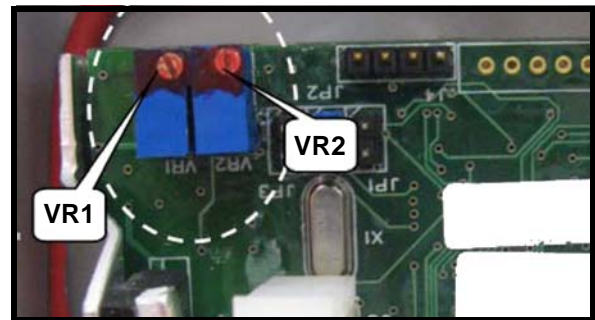

Fig. 27
- 2) **Safe working load:** By actuating the handset, make sure that the lift raises the safe working load on its entire stroke (175 kg / 385 lb). If not, adjust the current limiter with the potentiometer VR1 (see Fig. 27). Keep the safe working load raised for the next step. Turn the potentiometer clockwise to increase the force.
- 3) **Opening and closing the legs:** The safe working load hoisted, open and close the legs completely with the handset. If they do not function correctly, adjust the current limiter with the potentiometer VR2 (see Fig. 27). Turn the potentiometer clockwise to increase the force or counterclockwise to decrease it.